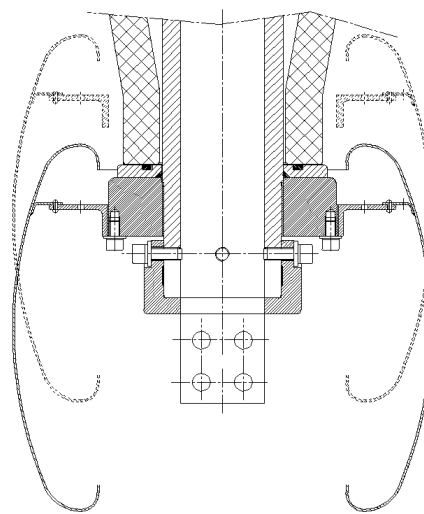

Fig. 24
- Shield removable upwards: it can be unscrewed upwards (fig. 24).